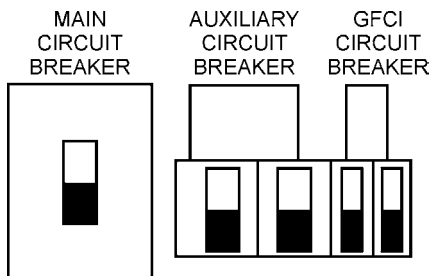

Figure 50. Main, GFCI and Load Circuit Breakers Off
1. Place both the **MAIN, GFCI and LOAD** circuit breakers as shown in Figure 50 to the **OFF** position..